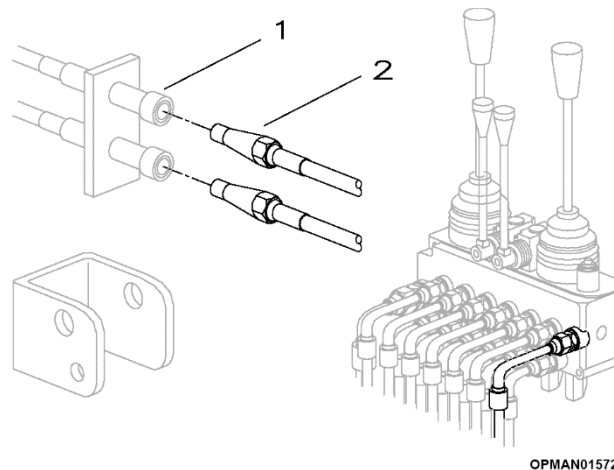

Figure 3.3
With reference to Figure 3.3, if not indicated, it is important to know which is the SUPPLY position for the tractors double-acting control spool. This position can be found by referring to the tractor's use and maintenance booklet. Mark and lock the lever in this position. This precaution is taken because using the spool in the reversed oil flow position could severely damage the hedge cutter's hydraulic circuit. Before making connection, clean both the quick-couplings and connections with a clean cloth. Connections on tractors are by standard female and arranged one below the other in a vertical direction so that one (top) is the supply and the other (bottom) is the return. The supply on hedge cutters will always be connected on the pressure control valve side of the valve block. Attach the quick-couplings (2) of the hedge cutter hydraulic circuit supply and return hoses into their respective connections (1) on the tractor.